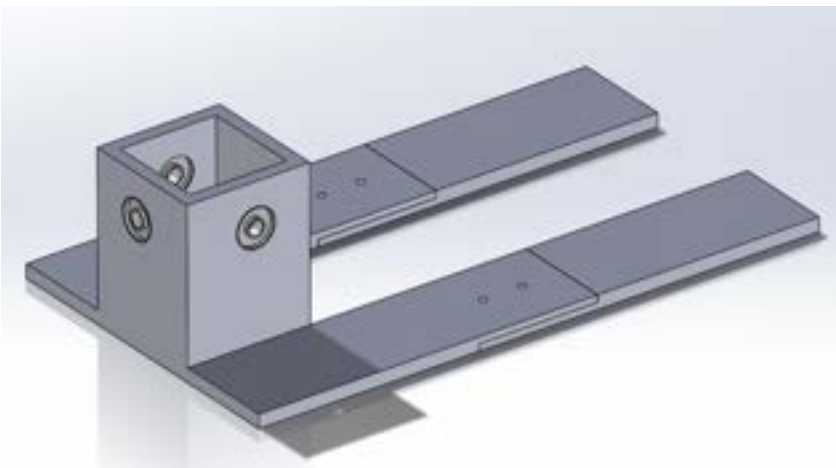

Figure 13: Adding Gearbox extensions
2. Connect 3D printed gearbox extension pieces to the gearbox via four M4 screws, as shown in figure 13. Screws should be screwed in from the bottom up.